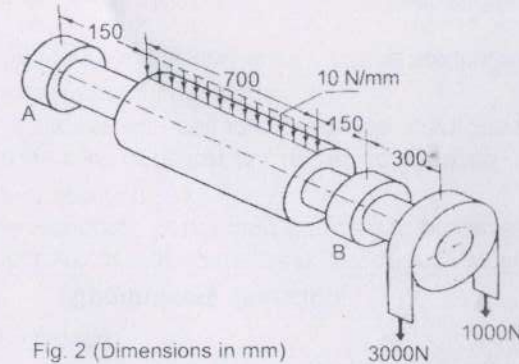

Fig. 2 (Dimensions in mm)
- Armature shaft of a 40 kW, 720 rpm electric motor, mounted on two bearings A and B, is shown in Fig. 2. The shaft is made of steel A148 grade 105-85, determine the shaft diameter if, shock and fatigue factor applied to bending moment is 1.5 and shock and fatigue factor applied to twisting moment is 1.0. (4+6=10)